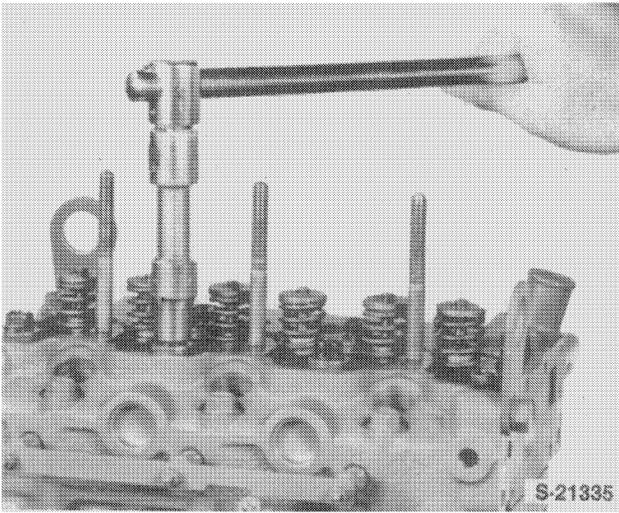

FIGURE 1-25
14. Remove the cylinder head bolts by loosening the bolts a half turn at a time to prevent warping the head, Figure 1-25.